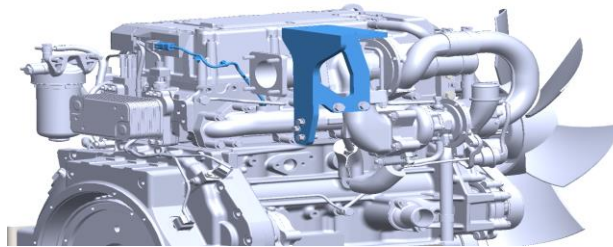

Figure 2
2. Unplug exhaust temperature sensor and unbolt sensor harness mounting bracket to mount ATD mount bracket (1) as shown in figure 2. Align the ATD mount bracket (1) and assemble onto the exhaust flywheel side using M12X30 (15) and M10X25 (12) bolts as shown in the figure 2. Reinstall the barcket and reconnect the harness.